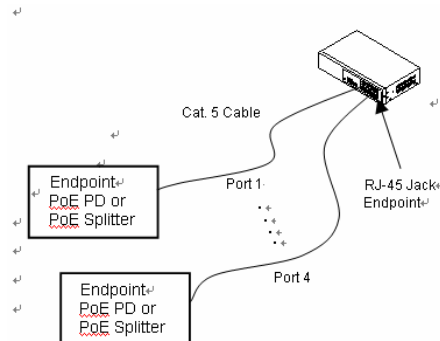

Fig. 2 PSE to PD or PoE Splitter
2. Install the TP media cable to the IEEE 802.3af PD for port 1 to 4. (See Fig. 2)